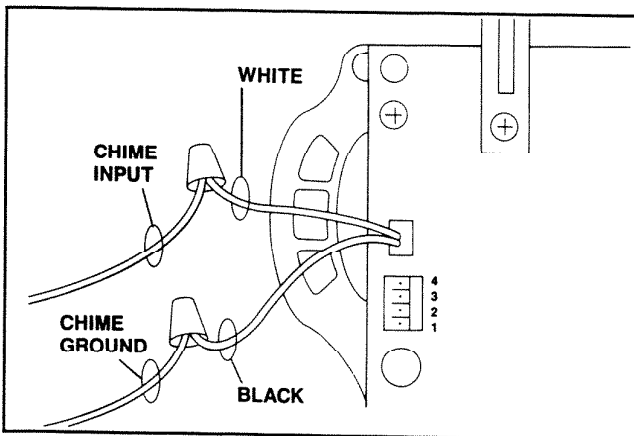

FIGURE 17
1. Connect NuTone IW-2 cable from electronic chime to the black and white wire shown in Figure 17.